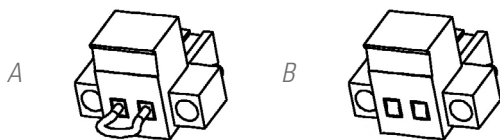

Fig. 4. Connector for external EPO.
5.3.2. EPO terminals (Emergency Power Output) ⑤.
- Either by removing the female connector from the socket where it is inserted. This connector has a cable connected to it as a bridge that closes the circuit (see Fig. 4-A).
- Or by operating the push button external to the equipment and owned by the user and installed between the terminals of the connector (see Fig. 4-B). The connection on the push button must be on the normally closed contact -NC-, so it will open the circuit when it is actuated.